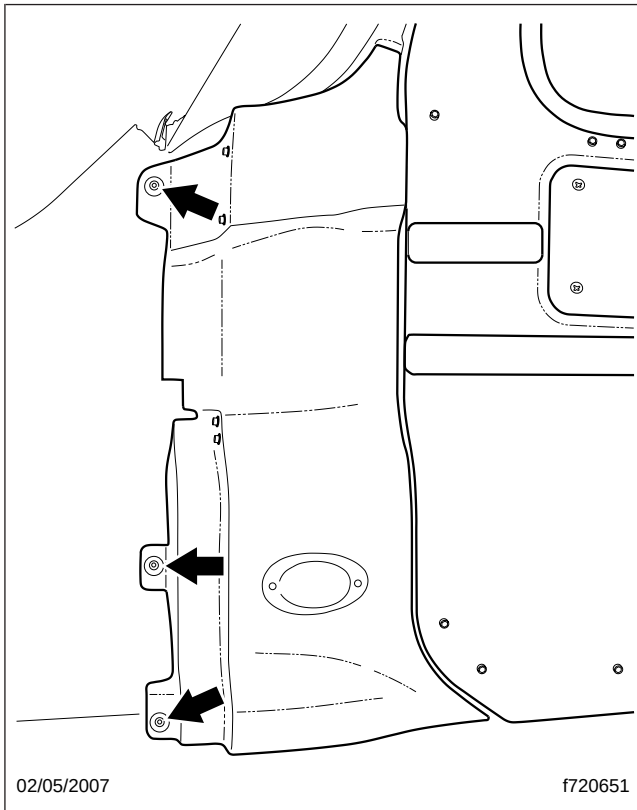

Fig. 3, Cowl Side Panel Forward Fasteners
- 2.1 Remove the two Torx screws and washers at the forward edge of the cowl side panel; see **Fig. 3**.
- 10.2 Install the bolt, nut, and two washers that attach the lower front corner of the cowl side panel to the hood rear support; see Fig. 3.